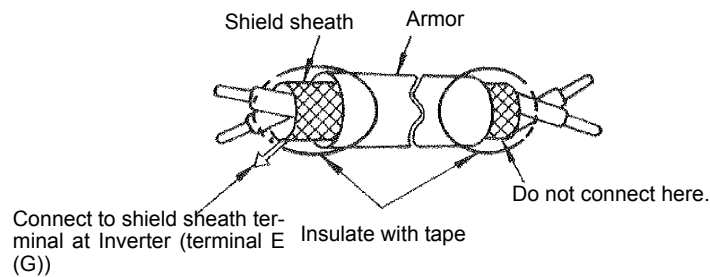

Fig 2.23 Processing the Ends of Shielded Twisted-pair Cables
- Use shielded twisted-pair cables for control circuits to prevent operating faults. Process cable ends as shown in *Fig 2.23*.
- Connect the shield wire to terminal E (G).